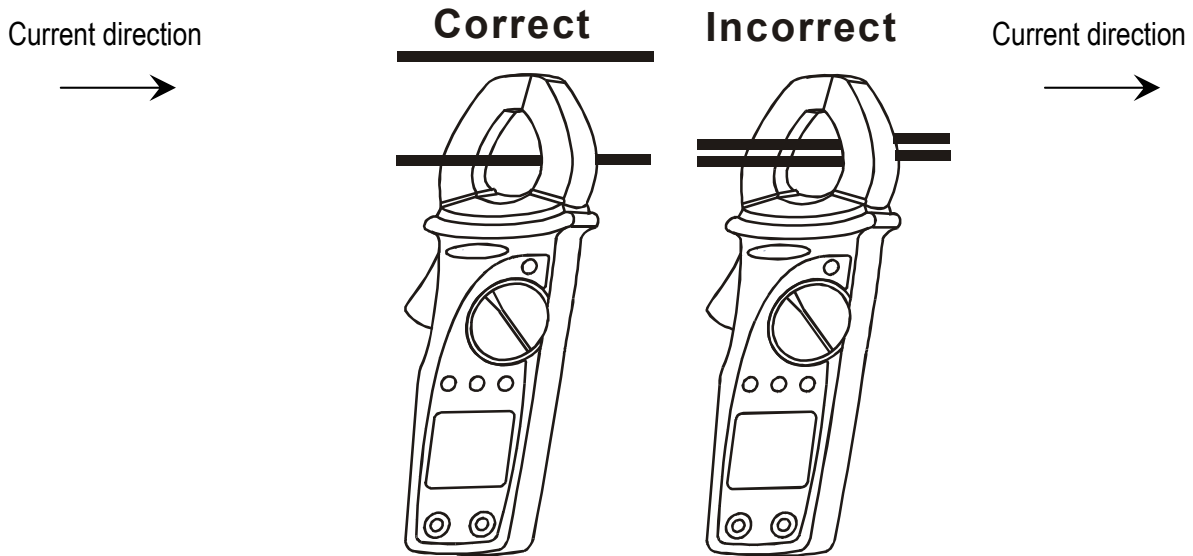

Fig. 7: Use of clamp during DC current measurement.
3. Open the clamp and put the test conductor in the center of the clamp jaw (ref. paragraph 4.1.2). Assure that the current flow indicated by the label inside the inductive clamp jaw as shown in Fig. 7.
5. Press R-H key you can select manually the measurement ranges in cyclic order. Press R-H key 2 seconds to return to the AUTOMATIC range selection.